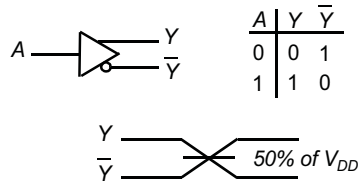

Figure 6.7 Differential Buffer.
11. Design and simulate a circuit that generates an optimal differential signal as shown in Figure 6.7. Make sure the rise and fall times are equal.